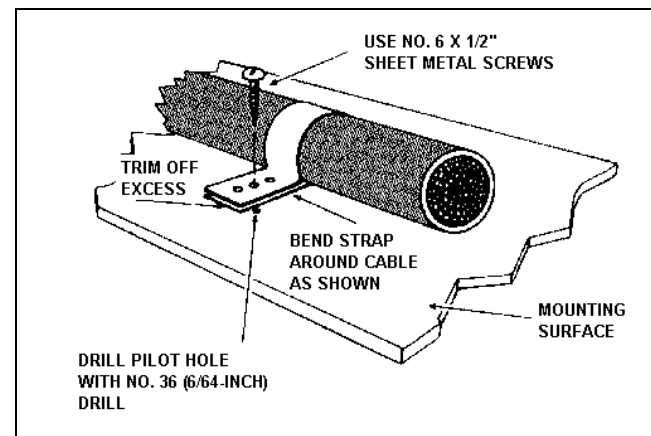

FIGURE 10 - INSTALLING CABLE STRAPS
4. Use the 3-inch cable straps and No. 6 self-tapping screw provided in the Mounting Hardware Kit to secure the cables neatly in place (See Figure 10).